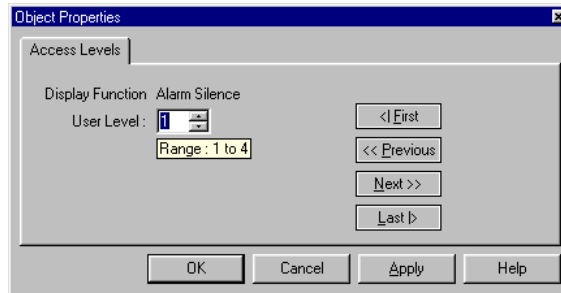

Figure 4-4. Access Level Object Properties Dialog
3. Double click on the display function whose access level you want to change. A dialog similar to the one shown in Figure 4-4 appears.